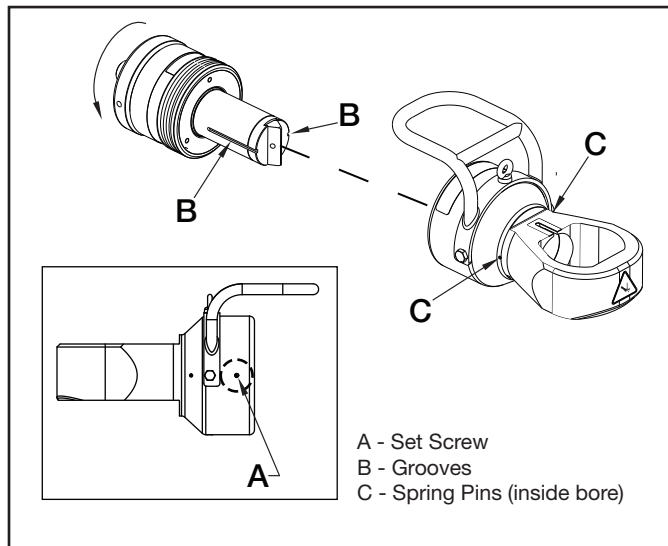

Figure 3, Assembling the Cylinder and Cutting Head
2. Loosen the plastic set screw (Figure 3, item A) located on the cutting head barrel.
3. Insert the cylinder into the head, aligning the axial slots in the blade holder (Figure 3, item B) with the spring pins (Figure 3, item C) in the cutting head bore. Once aligned, rotate the cylinder in the direction shown in order to engage the screw threads.
3. If tight, loosen the plastic set screw located on the cutting head barrel. See Figure 3, item A.
3. If tight, loosen the plastic set screw located in the barrel portion of the cutting head. See Figure 3, item A.